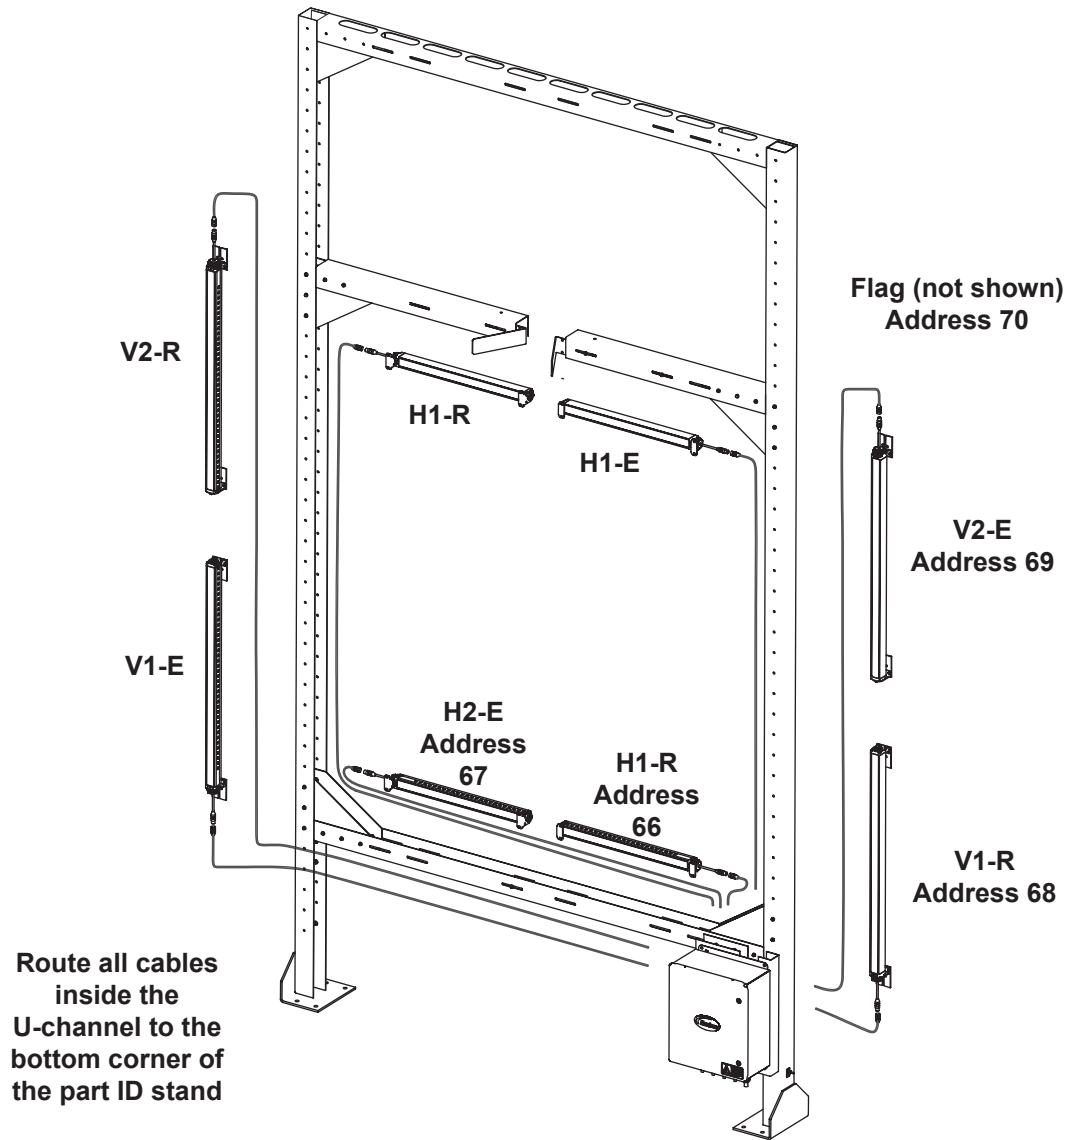

Figure 12 Sensor Location and Cable Routing
NOTE: Beam arrays are addressed at the factory. They must be installed according to Table 8 and Figure 12. Refer to the Parts section for part numbers. Contact a Nordson representative to reprogram a beam array address.
NOTE: Beam arrays are programmed at the factory and must be installed as shown in Figure 12.
10. See Figure 12. Install the beam arrays in the part ID stand.
NOTE: The horizontal receivers should be opposite the horizontal emitters. Note the orientation in Figure 12.